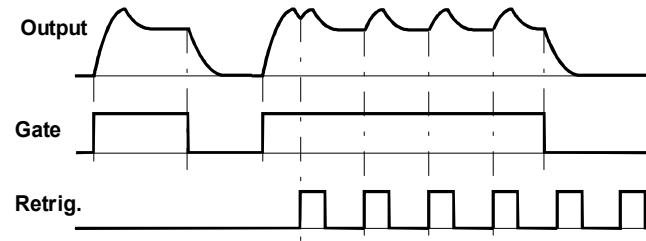

Fig. 2: Envelope re-triggering
⑥ Retrig.
Socket ⑥ is the VCADSR's **retrigger input**. This is where you patch in a voltage to re-trigger the envelope. If, for instance, you patch an LFO in, then *while the gate is open*, the envelope is re-triggered every time an LFO pulse is received (see Fig. 2).